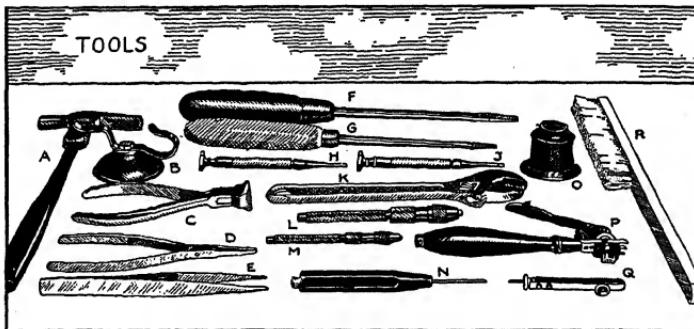

FIG. 30.—Tools used in instrument repair.
**Tools.**—Hand tools needed by every airplane instrument repair man are seen in Fig. 30. They are:
In addition to the tools shown in Fig. 30, a man who is to do much instrument repair work will have need of the following: